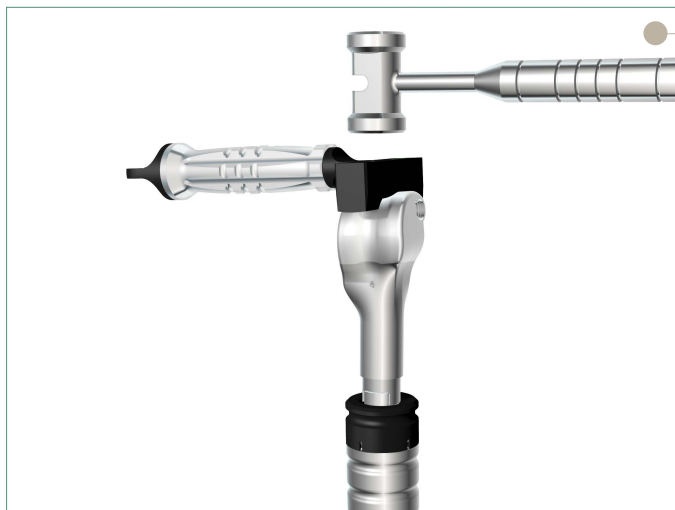

Figure 27
- ▶ Next, the Stem/Extension piece construct is assembled to the Distal Femoral Component. Place the Distal Femoral Component onto the Extension Piece or Stem. The 5-in-1 Impactor is inserted between the condyles of the Distal Femoral Component so that its handle is parallel to the axis of the bushing holes and impacted with a Mallet (**Figure 27**).